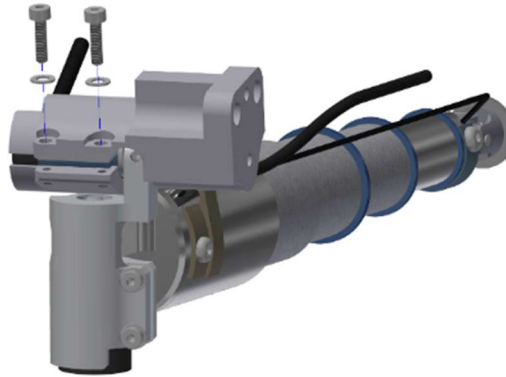

Figure 5-51. Upper thorax IR-TRACC Y-axis potentiometer assembly clamp
- 5.3.15 Install two M2 X 0.4 X 8 LG. SHCS and two M2 SPLIT LOCK WASHER SS into the IR-TRACC Base to clamp onto the Potentiometer Assembly, Y-Axis (Figure 5-51).